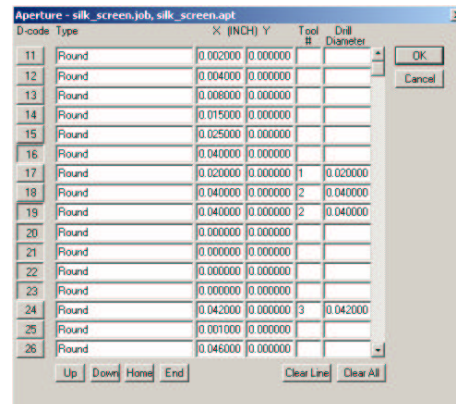

Figure 11: Tool definition example
- 10) If you want the holes to be drilled for you choose **Layer** and deselect the **Show** option for any layers that are not via layers. Choose **Edit Aperture** and locate the D-codes for the desired holes. Next give a tool number (i.e. 1 for the first tool) and drill diameter (the diameter will be based on the hole dimensions recorded in step 6). Once this is done for every hole (see figure 11), hit **OK**. Hit **OK** again.